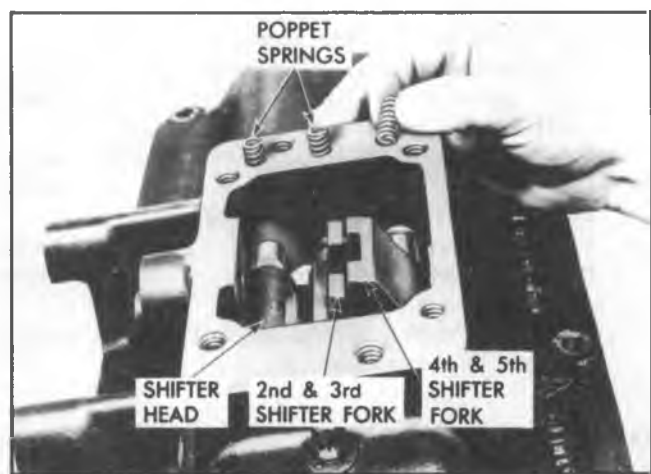

Fig. 8R--Removing Poppet Spring
4. Lift poppet springs from holes in cover (fig. 8R). Turn cover upside down over a clean container so poppet balls will drop out of holes in container.